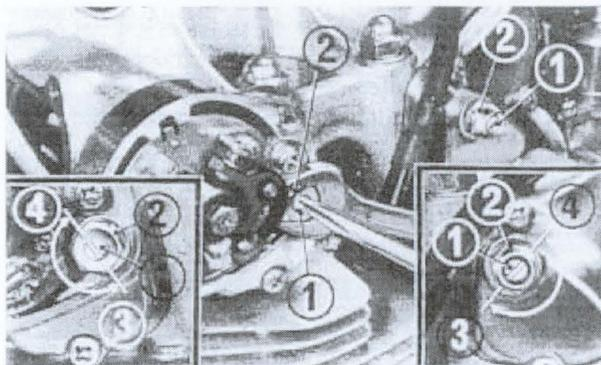

Fig. 3-3 (1) Cam follower shaft (2) Lock nut (3) To decrease (4) To increase
6. To adjust, loosen the lock nut and rotate the cam follower shaft until within the specified range shown in Fig. 3-3 until the correct clearance is obtained.